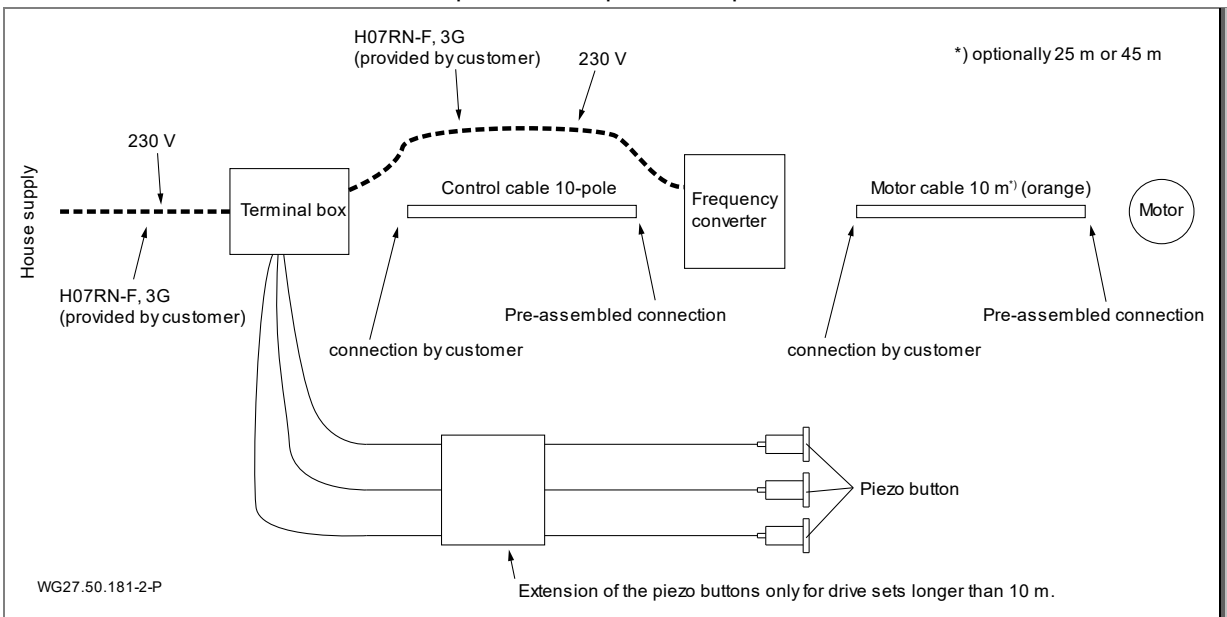

Fig. 19
14. The wires for the PTC (brown or black (BR1)/white (BR2)) must be connected according to the circuit diagram. See "Fig. 19" on page 24